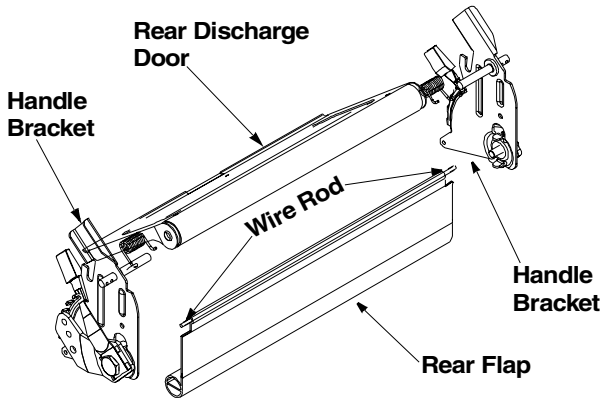

Figure 17
- To remove rear flap, cut off the flat end of the wire rod which secures it to the deck. See Figure 17.